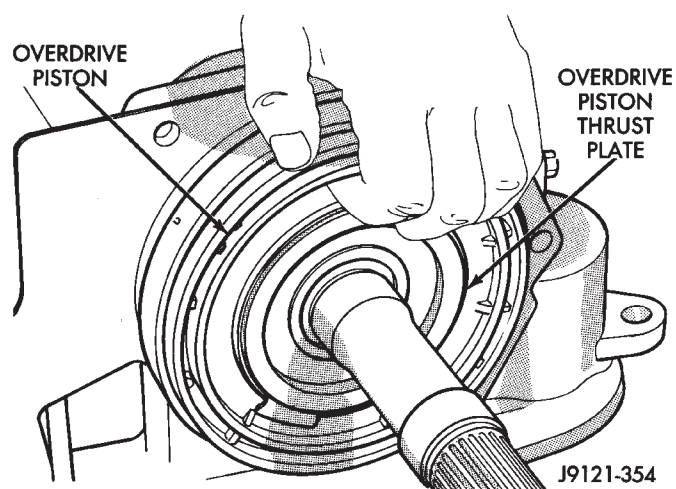

Fig. 166 Installing Overdrive Piston Thrust Plate
(40) Install spacer on intermediate shaft, if not previously installed.
(41) Install overdrive piston thrust plate (Fig. 166). Use liberal quantity of petroleum jelly to hold thrust plate in position on piston.